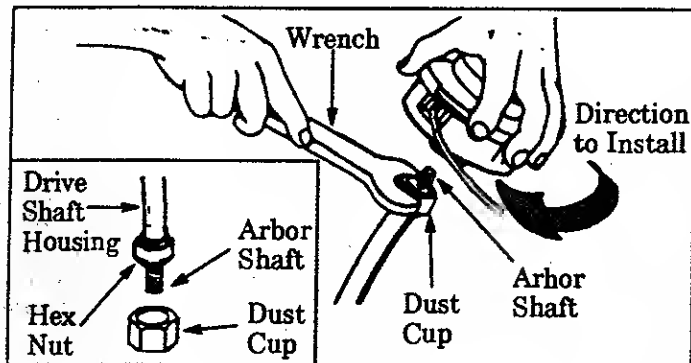

Figure 4
- Place the Dust Cup on the Drive Shaft Housing over the hex nut that is assembled on the arbor shaft. Figure 4.
- Thread the Trimmer Head onto the Arbor Shaft against the Dust Cup and hand tighten firmly. Figure 4.